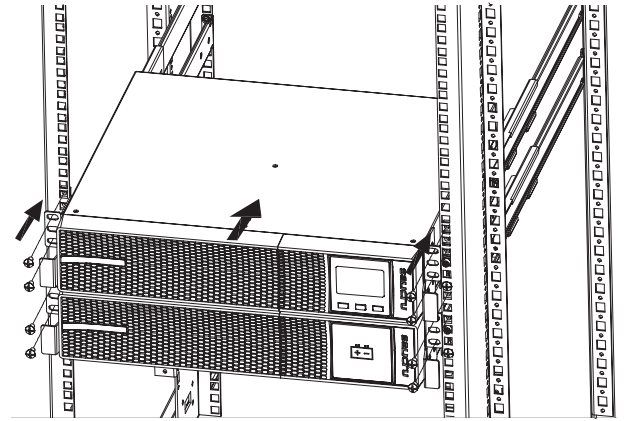

Fig. 9. Rack-mounted model in a 19" cabinet with backup extension (battery module).
- To install a device and its battery module in a 19" rack cabinet, proceed as follows (see Fig. 9):